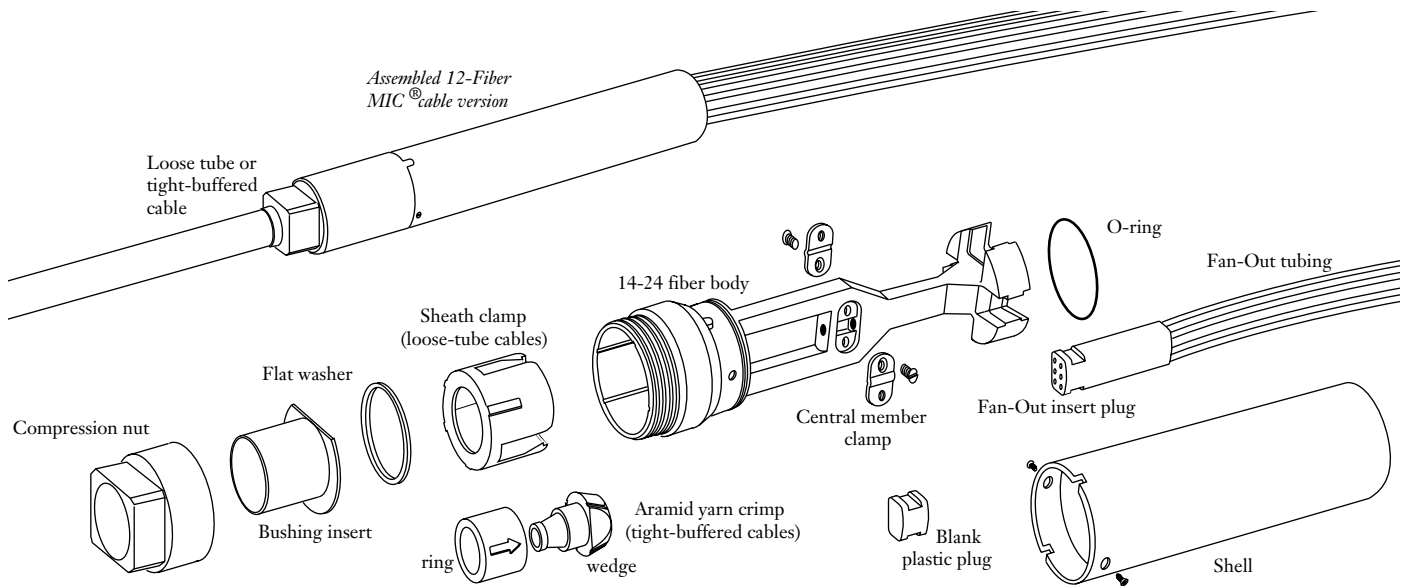

Figure 1
1.1 This procedure describes the recommended installation procedure for Corning Cable Systems Spider Fan-Out Kits (Plus) for non-armored cables containing up to 24 fibers (Figure 1). Fan-Outs permit the branching of fibers contained in an optical cable into individual cables, which can then be connectorized or terminated per system interface requirements.
1.3 As described in this procedure, each of the individual fibers is fed into a factory-assembled insert plug which incorporates 1-meter (39.37 in.) lengths of furcation tubing. Figure 1 identifies the components of the Fan-Out kits.